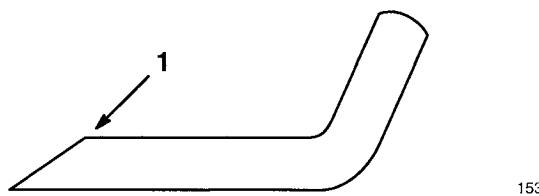

Figure 36
6. **SHARPENING BLADE**—Using a file, sharpen top side of blade and maintain original cutting angle (Fig. 36). The blade will remain balanced if same amount of material is removed from both cutting edges.